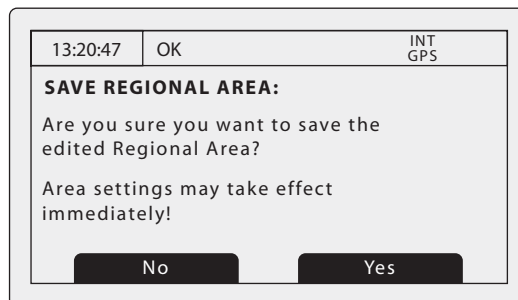

Figure 50 Regional area settings confirmation screen
7. You will be prompted to confirm storage of the regional area setting with the display shown in Figure 50.